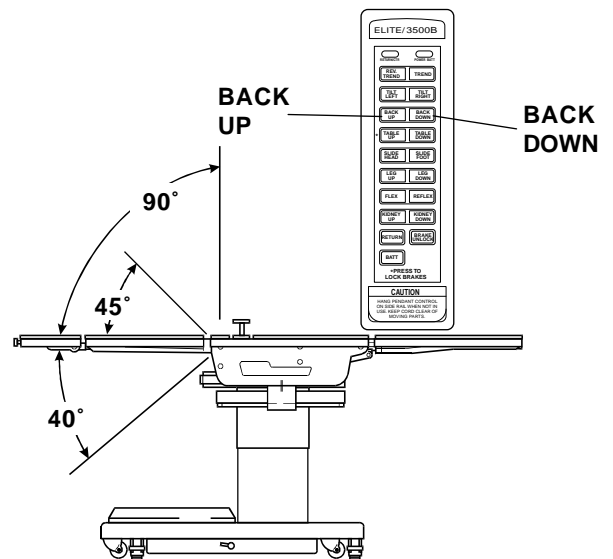

Figure 3-9. Back Section Positioning
d. Back Section. To raise the back section, press the BACK-UP button (figure 3-9). The back section will raise up to 90° above horizontal. To lower the back section, press the BACK-DOWN button. The back section will go down to 40° below horizontal.